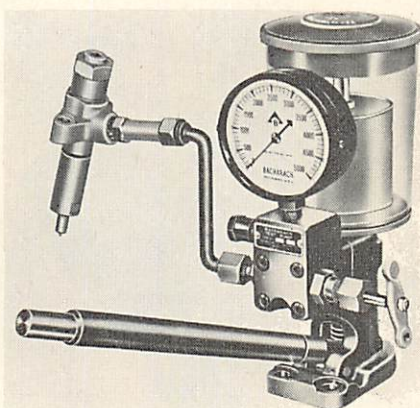

Fig. O83 — An injector tester such as one shown is necessary to test and adjust fuel injectors.
**116. NOZZLE TESTER.** A complete job of testing and adjusting the injector requires the use of a special tester such as that shown in Fig. O83. Only clean approved testing oil should be used in the tested tank.